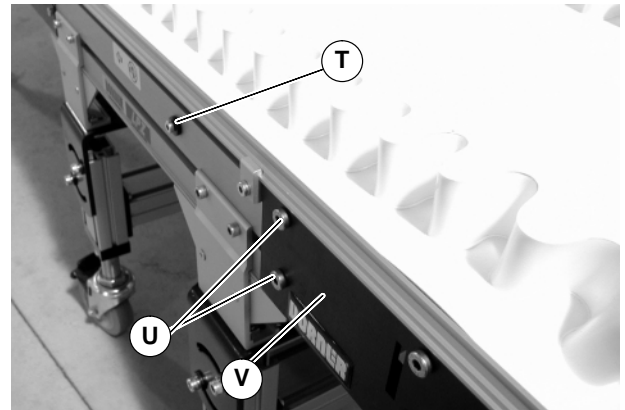
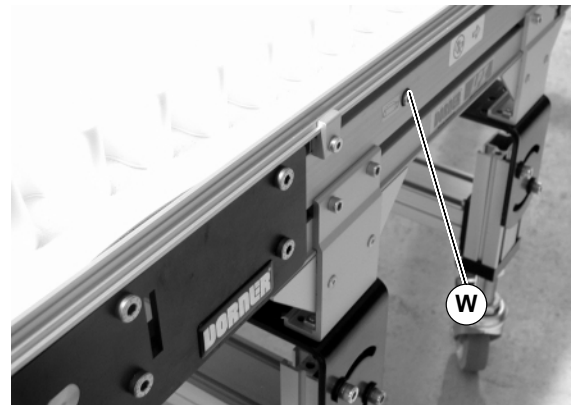

Figure 22
Figure 23
- On tension end of the conveyor, identified by the pinion locking screw (T of Figure 22), push in head plate assembly (V): Loosen the pinion locking screw (T), adjust the pinion torque screw (W of Figure 23). On both sides of conveyor, loosen the two tail clamp
bolts (U of Figure 22), and push head plate assembly (V) inward.